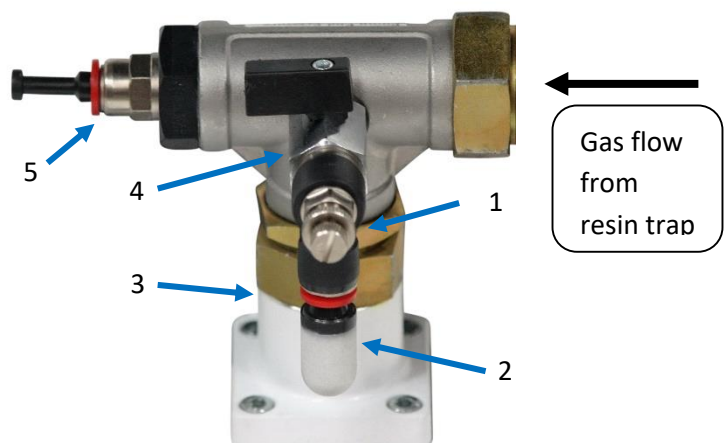
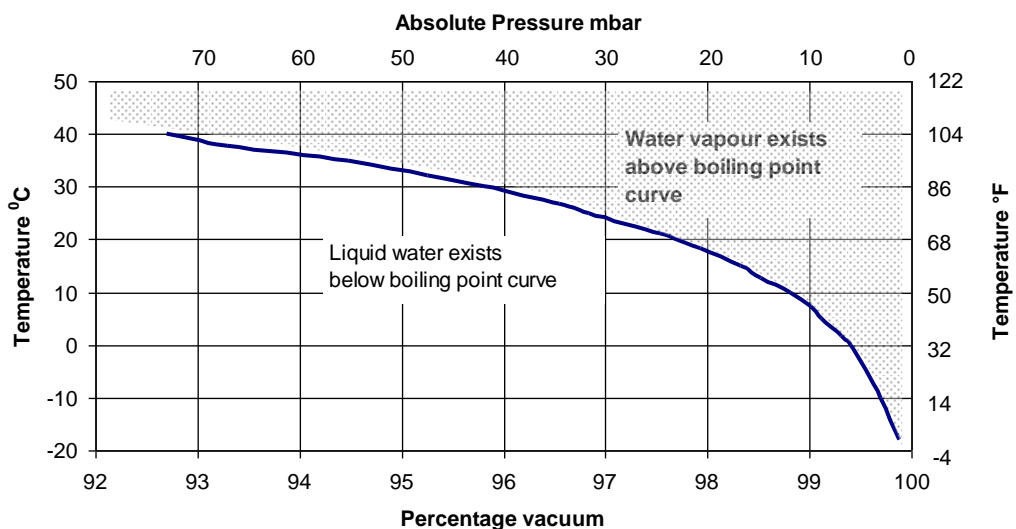

Figure 1
Figure 2, vapour pressure curve for water
The EVA valve is a small, manually operated valve assembly fitted to a T above the vacuum connection to a VSV-20 vacuum pump. The assembly is illustrated in Figure 1 and its components are:
In all cases where the laminate (or whatever is being evacuated) is at an elevated temperature, recognise that vapour generation will be increased and evacuation will slow down. In severe cases, the evolution of vapour may be more than the vacuum pump can dispose of without oil contamination. If the pump oil should begin to discolour quickly, adjust the EVA valve so that the pump's end pressure (with the resin trap valve closed) is raised to approximately the expected vapour pressure at the laminate (please refer to the water vapour pressure chart in Figure 2, or to the solvent vapour pressure chart, if the resin supplier can provide this information). Reopen the resin trap valve and pump until the actual pressure drops to the end pressure you set the EVA valve to. You can now reduce the EVA valve pressure setting and continue pumping down to the desired end pressure. With large vapour volumes, this process may be too slow. If this is the case, the alternatives are to use a larger pump with an appropriate vapour pumping capacity, or to use a refrigerated inlet trap before the vacuum pump.
**Step A1 (optional)** - You may wish to pre-set the EVA valve (Item 1 in Fig. 1) to about 10 mbar absolute or to some pressure above the pump's lowest end pressure, to provide a curing pressure somewhat above the infusion pressure (to reduce the size of any residual voids – see remark about Boyle's Law at the bottom of Page 1). Determining the optimum curing pressure may take some experimentation (unless in the laminate specification). With flat laminates the curing pressure could be quite high – perhaps as high as the maximum opening setting for the EVA valve. For complex laminates, where too high a pressure inside the bag might cause a change of laminate shape or thickness, the absolute cure pressure should be low. If the pressure used in Step 2 is 1 mbar absolute, 10 mbar absolute should provide a worthwhile void reduction and be safe in all cases.
**Step A2** - Once the curing pressure (if any) has been set in Step 1, evacuate the laminate and leak test the bag and tubing with the On/off valve (Item 4 in Fig. 1) on the EVA valve assembly CLOSED. Note that the vaporisation of moisture in the laminate can stall the pumping down of the bag and a leak may appear to have developed. Before rushing to check for vacuum leaks, compare the absolute pressure that pumping has stalled at with the vapour pressure of water at the laminate temperature. Refer to Fig. 2. If about the same, be patient and allow the pump to remove the vapour.
**Step B7** - Following infusion and when the laminate is fully wetted out, you may want to further OPEN the EVA needle valve (Item 1 in Fig. 1) to raise the pressure inside the bag to reduce the void size. Refer to comment in Step A1.
2. Remove the plug and connect your absolute pressure gauge to the gauge port on the EVA valve assembly (Item 5 on Fig. 1). This port will O-ring seal to a male gauge stem or gauge tube of 8 mm (5/16”) diameter. This is a common stem size for compressed air fittings.
3. Close the On/off valve on the EVA valve assembly. (Item 4 on Fig. 1)